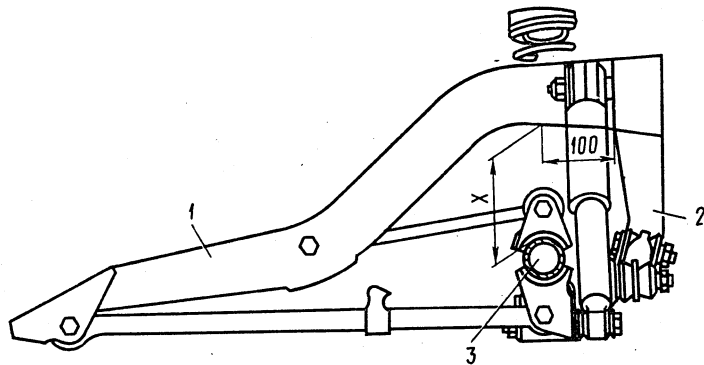

Fig.4-16. Rear Suspension Installation Diagram:
- load the rear end of the car so that distance "X" from the axle beam to the body side member measured at a point located 100 mm from the transverse radius rod bracket (Fig. 4-16) is 152 mm;